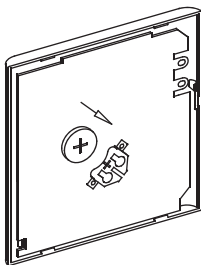

Fig 3-5
- Put the battery into the installation site and make sure the positive side of the battery is in accordance with the positive side of installation site. (See Fig.3-5)